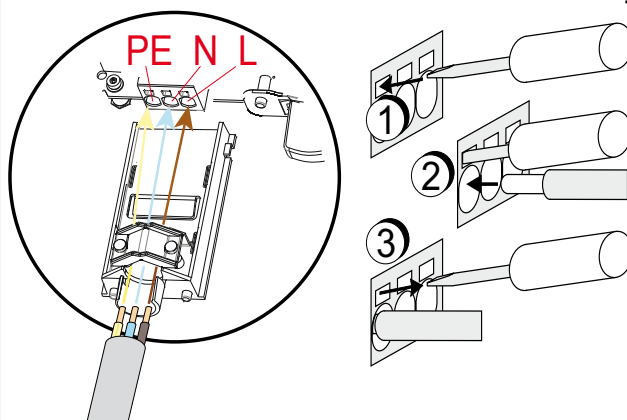

Figure 5-4: Connect the AC cables
- 4** Connect the AC wiring to the AC terminal. Figure 5-4 shows the PE / N / L terminal. Tighten the strain relief. Make sure the cable is fixed firmly.